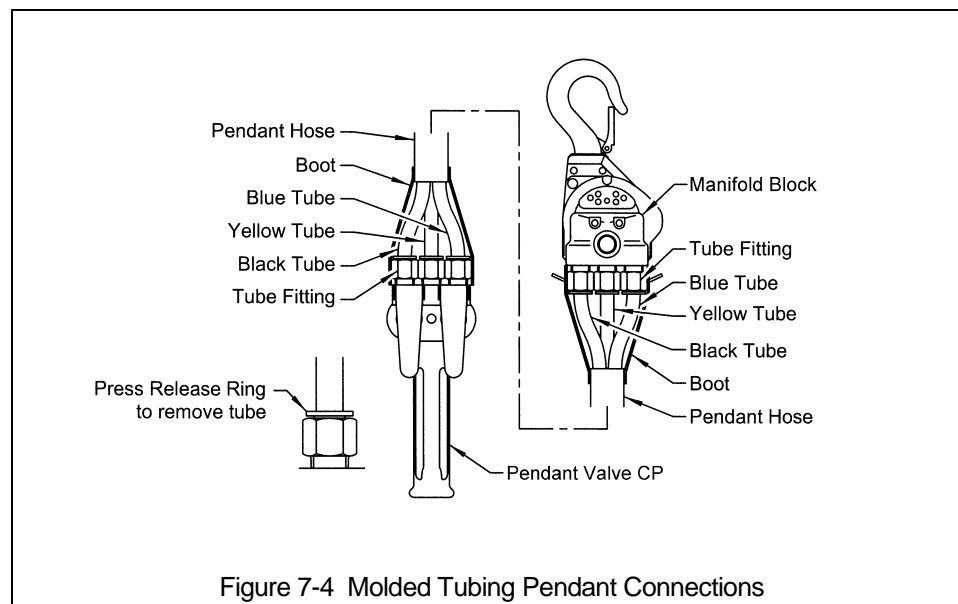

Figure 7-4 Molded Tubing Pendant Connections
7.3.1 The following procedure covers the installation of the molded tubing version of the Pendant Hose (Parts List Figure Number 154) and the Pendant Valve CP. Refer to Figure 7-4.
- 2) Firmly press the individual color-coded pendant tubes completely into the Tube Fittings on the Pendant Valve CP and Manifold Block until they bottom out. Refer to Figure 7-4 for the correct placement of the tubes.